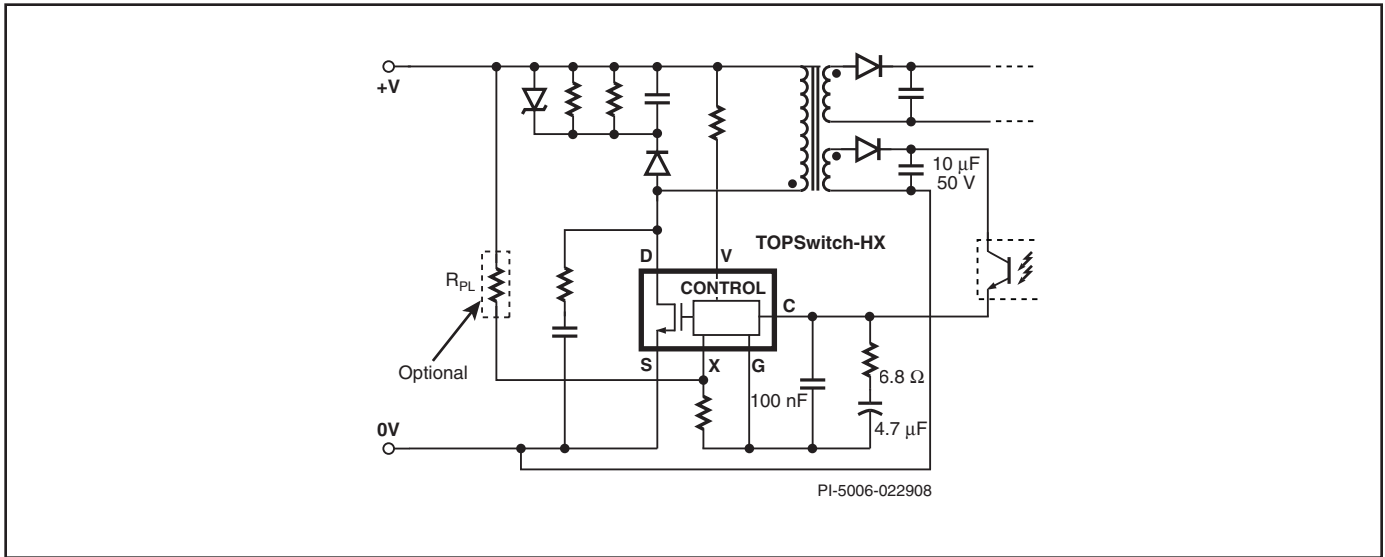

Figure 22. Recommended Circuit Configuration for TOP259YN - TOP261YN with G Pin.
- A soft finish circuit is recommended for high output voltage designs (>12 V). This ensures startup with full load at low line. In Figure 22, R23, D6 and C19 show one implementation of the soft finish circuit.